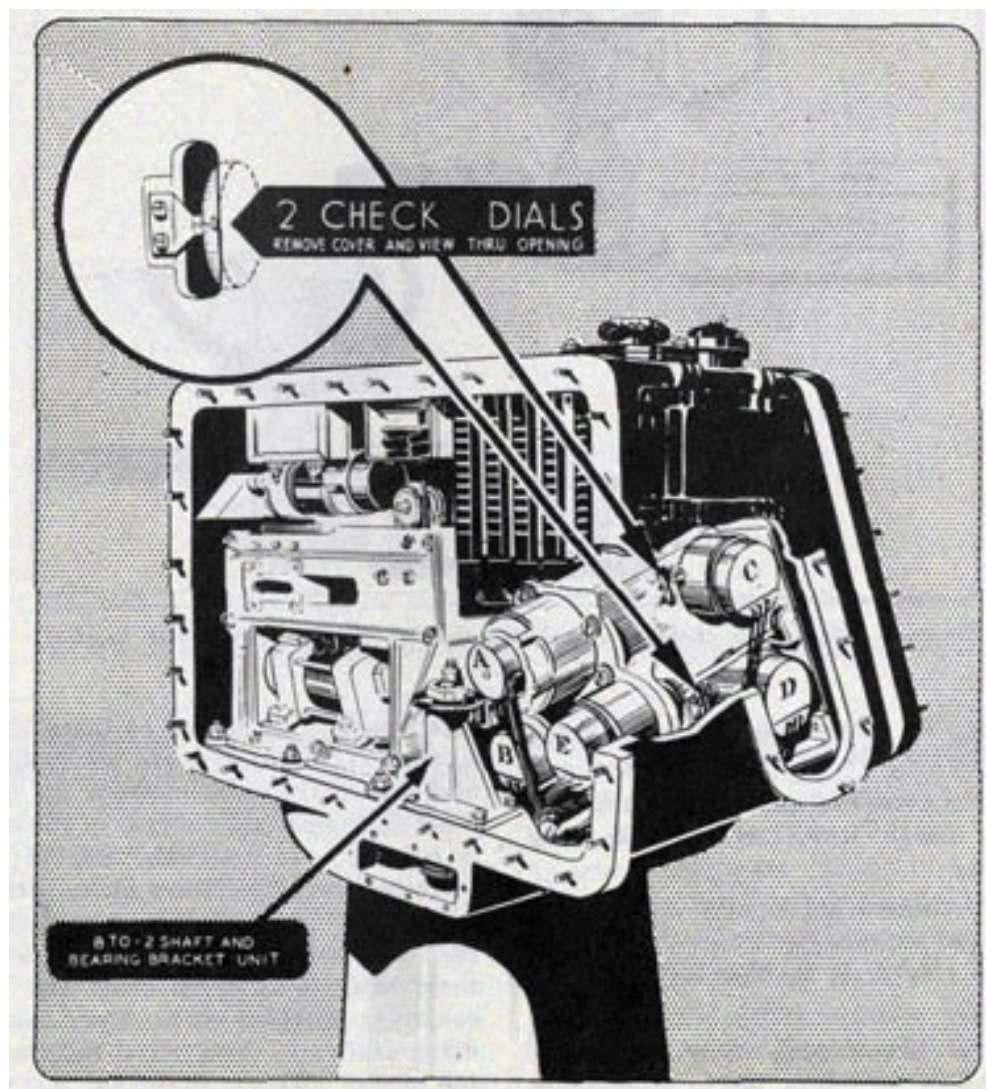

Figure 86-Diagram showing location of check dials and BTO-2 shaft in director.
1. Remove the generator access hole cover on the left side of the case (looking toward dial face) for viewing the check dials. See figure 86.
4. To convert a "Port" instrument to "Starboard" mounting, train the case 180 degrees to the right or to convert a "Starboard" instrument to "Port" mounting, train the case 180 degrees to the left. For conversion to a "Centerline" position, the case is trained 90 degrees. Use the check dials for accurate setting and adjust to zero (check dials only). See figure 86.